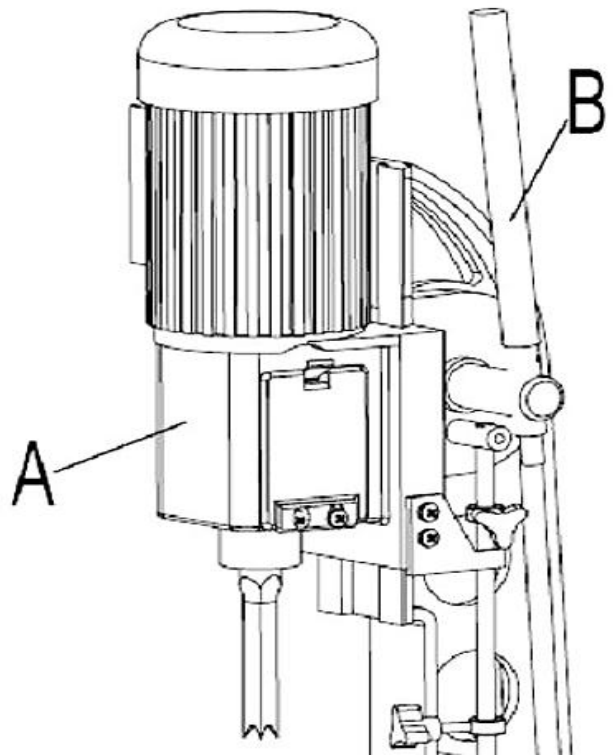

Fig 4
- The head (A) Fig. 4, is raised and lowered by means of the lever (B).